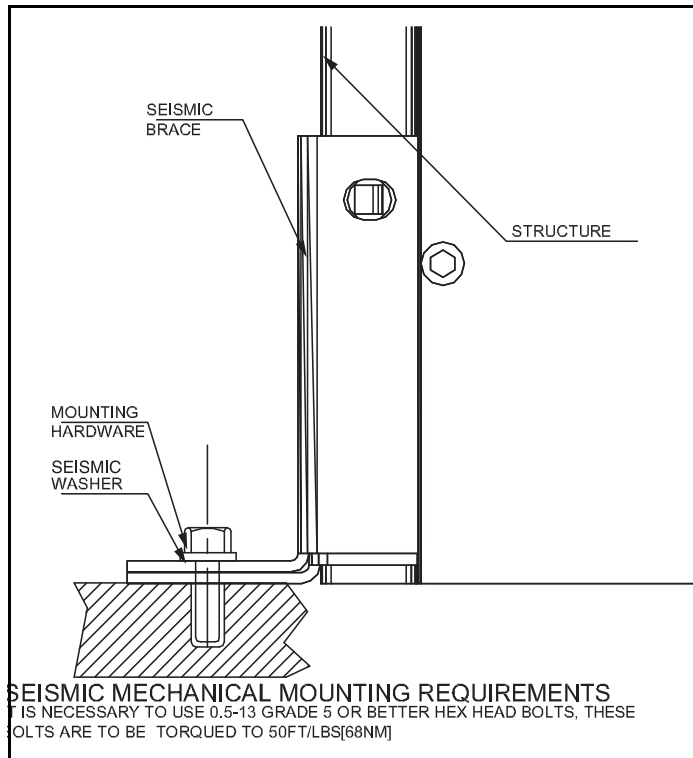

Figure 17. Mounting Details.
Step 1: Mount the ATS on a flat rigid surface (Figure 17). Shim if necessary.